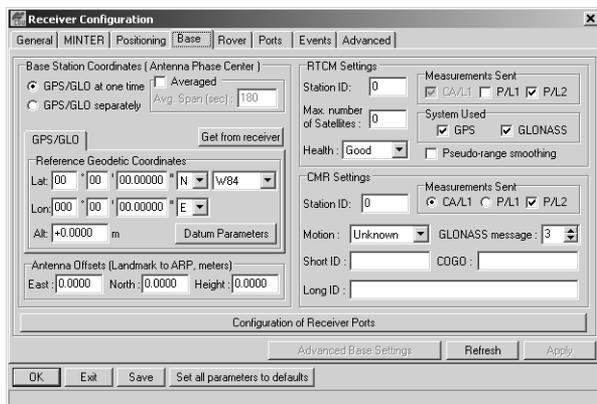

Figure 3-14. Base Tab Configuration
11. Select the **Base** tab and set the following parameters (Figure 3-14 on page 3-20):